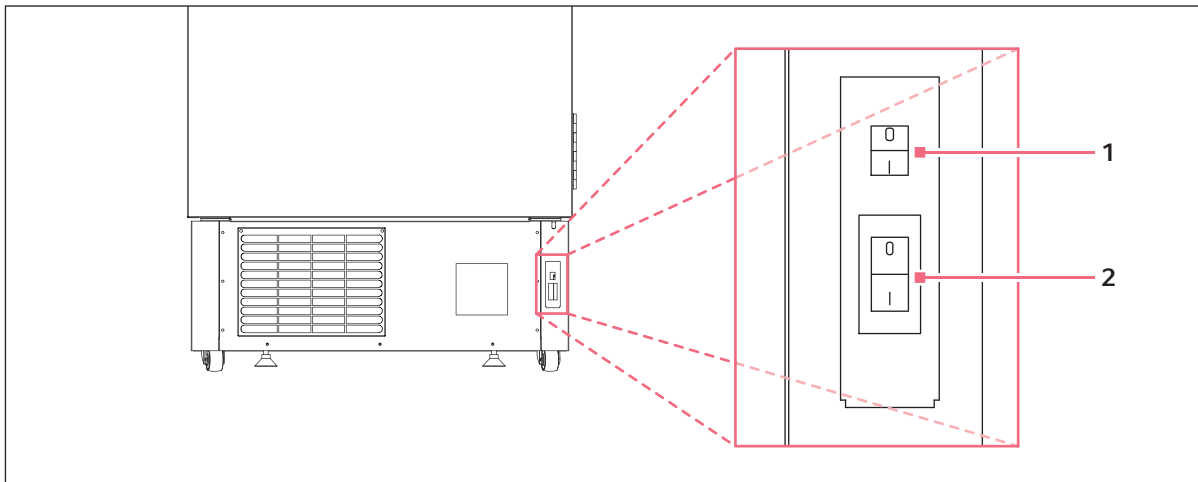
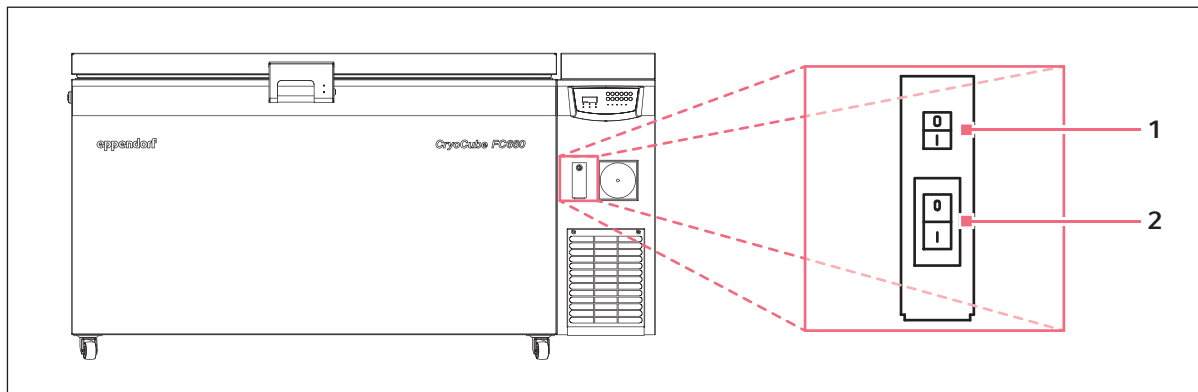

Fig. 5-1: CryoCube upright freezers switch location
Fig. 5-2: CryoCube chest freezers switch location
The equipment is delivered with the battery deactivated. The power fail alarm is activated by the battery rocker switch within the lockable panel, which is located at the bottom right-hand corner. The switch is labelled **I (ON)** and **O (OFF)** (see Fig. 5-1 on p. 28) and (Fig. 5-2 on p. 29).